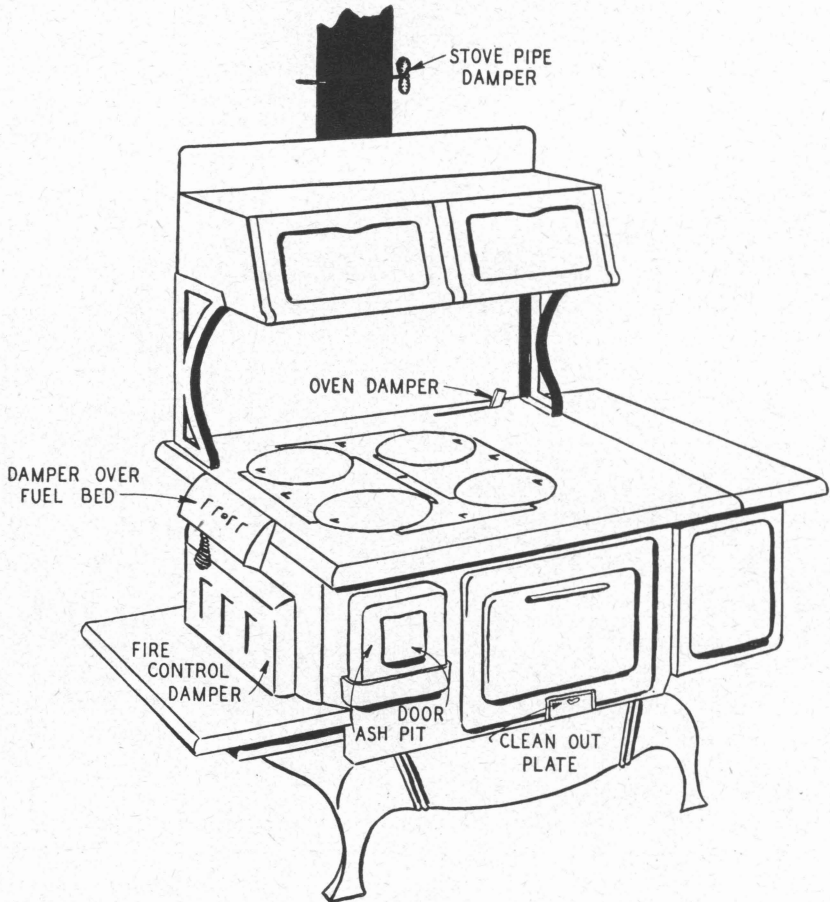

Fig. 52
- Close the stove pipe damper and open the fire control damper for quick heating, Fig. 52.
- Clean out all soot from under lids, range top, and around oven, and at clean out plate, Fig. 52.
- c. Use correctly dampers and draft-checking devices, Fig. 52. Do not allow the range to become red hot as this warps the stove.
The fire control damper below the firebox, Fig. 52, admits the necessary air for combustion. Keep the ash pit door, Fig. 52, closed.
The damper over the fuel bed, Fig. 52, admits cold air on top of the fire. Open it slightly when adding fresh fuel to aid in combustion of gases.
The oven damper, Fig. 52, reduces the draft from the chimney and draws the heat around the oven.
The stove pipe drawer, Fig. 52, is used to regulate the chimney draft. When a strong wind is blowing, keep this damper partly closed, except when starting a fire. On wet days, leave this damper entirely open.
1. Remove all ashes regularly from the firebox, and ash pan, Fig. 52. Never allow ashes in the ash pit to remain in contact with the grates.